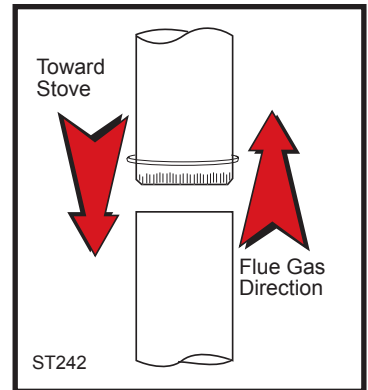

Fig. 5 Chimney connector.
- Begin assembly at the flue collar of the stove. Insert the first crimped end into the stove's flue collar, and keep each crimped end pointing toward the stove. (Fig. 5) Using the holes in the flue collar as guides, drill 1/8" (3mm) holes in the bottom of the first section of chimney connector and secure it to the flue collar with three #10 x 1/2" sheet metal screws. Lift off the griddle, and shield the stove's surface between the griddle opening and the front of the flue collar to protect the finish when you drill the front hole.
- Fasten each joint between sections of chimney connector, including telescoping joints, with at least three (3) sheet metal screws. The pre-drilled holes in the top of each section of chimney connector serve